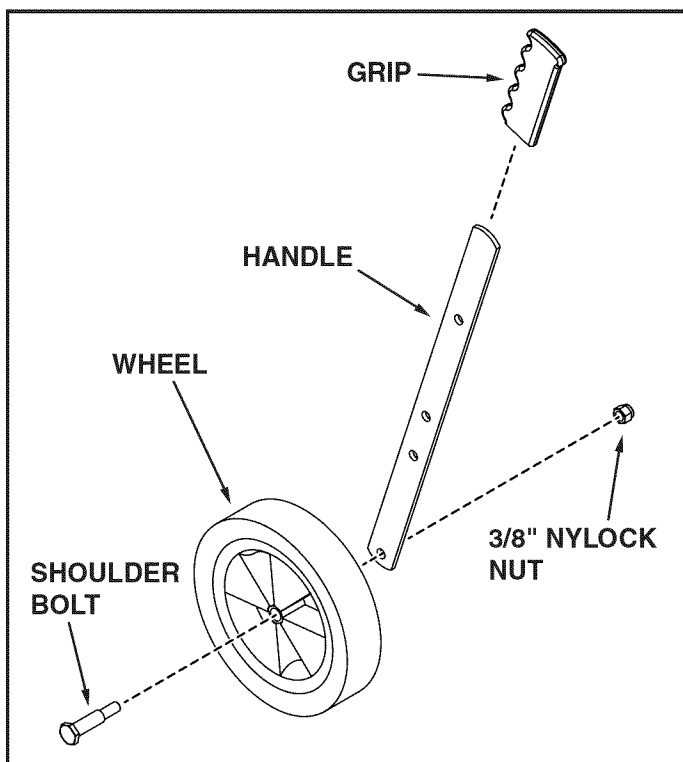

FIGURE 10
- Assemble a grip onto each handle. See figure 10.
- Attach a wheel to bottom hole of each handle using a shoulder bolt and 3/8" nylock nut. See figure 10.